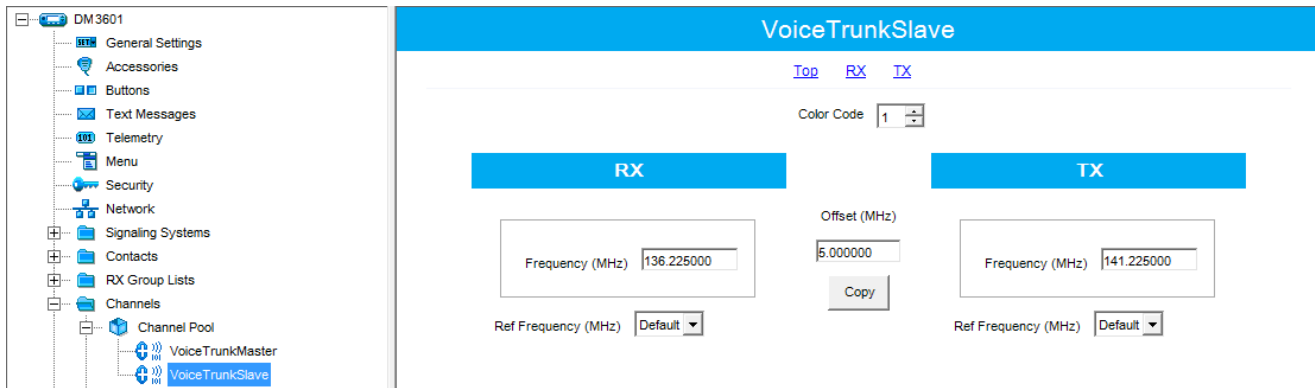

Fig. 15 - Setting frequency pair for Slave repeater channel
8. In the **Channels** section create a trunk channel dedicated to GroupCall2 and do the following settings (Fig.15).